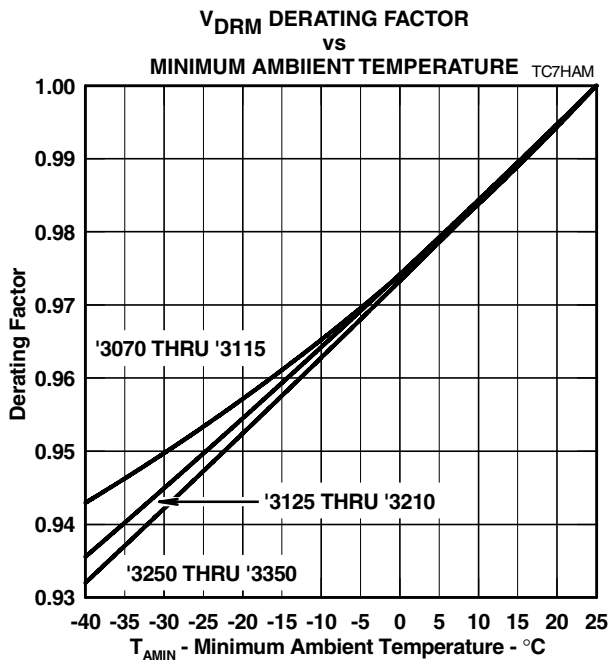

Figure 9.
- NOTES: 1. See Figure 9 for voltage values at lower temperatures.
The protector should not clip or limit the voltages that occur in normal system operation. For unusual conditions, such as ringing without the line connected, some degree of clipping is permissible. Under this condition, about 10 V of clipping is normally possible without activating the ring trip circuit. Figure 9 allows the calculation of the protector  $V_{DRM}$  value at temperatures below 25 °C. The calculated value should not be less than the maximum normal system voltages. The TISP3290H3, with a  $V_{DRM}$  of 220 V, can be used for the protection of ring generators producing 105 V rms of ring on a battery voltage of -58 V. The peak ring voltage will be  $58 + 1.414 \times 105 = 206.5$  V. However, this is the open circuit voltage and the connection of the line and its equipment will reduce the peak voltage.
For the extreme case of an unconnected line, the temperature at which clipping begins can be calculated using the data from Figure 9. To possibly clip, the  $V_{DRM}$  value has to be 206.5 V. This is a reduction of the 220 V 25 °C  $V_{DRM}$  value by a factor of  $206.5/220 = 0.94$ . Figure 9 shows that a 0.94 reduction will occur at an ambient temperature of -32 °C. In this example, the TISP3290H3 will allow normal equipment operation, even on an open-circuit line, provided that the minimum expected ambient temperature does not fall below -32 °C.